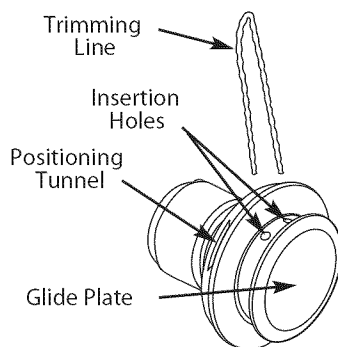

Fig. 23
**NOTE:** Before inserting new line into the holes in the cutting head, identify the proper holes by following the directions on the glide plate (Fig. 23). Do not attempt to remove the cutting head from the unit when replacing line.
1. Insert both ends of your line into the insertion holes in the side of the cutting head (Fig. 23).